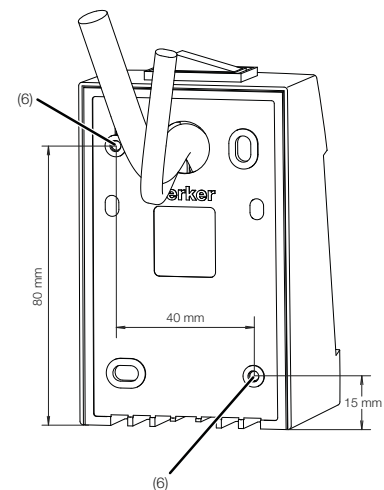

Figure 2: Dimensions for rear mounting of the complete device
The Integro Box can also be screwed to the rear panel of the mirror cabinet in assembled state using the fastening points (6) provided (**Figure 2**). Suitable screws are available upon request.